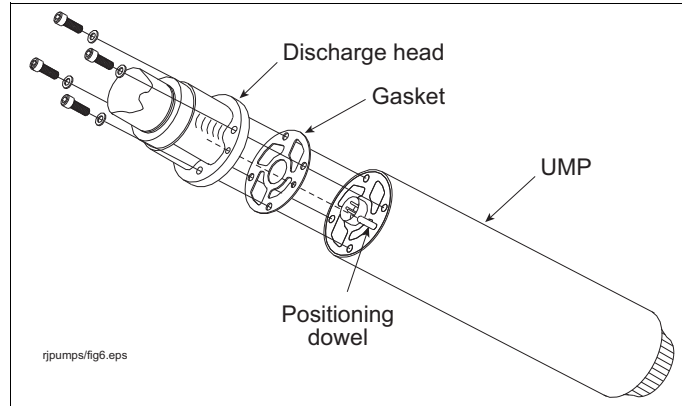

Figure 40. UMP Bolts And Gasket
4. Remove the old UMP by removing the four bolts holding the discharge head as shown in Figure 40. Discard the old gasket and fasteners.
4. Remove the UMP by removing the four bolts holding the discharge head as shown in Figure 40 on page 46. Discard the old gasket and fasteners.